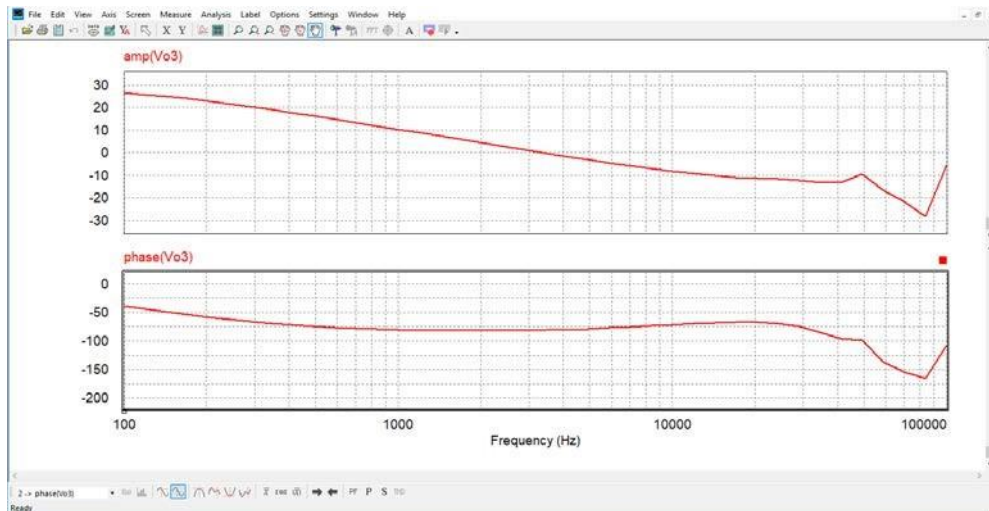

Figure 2: AC sweep performed in Psim
2. The result of the AC sweep performed in Psim is shown in Figure 2.